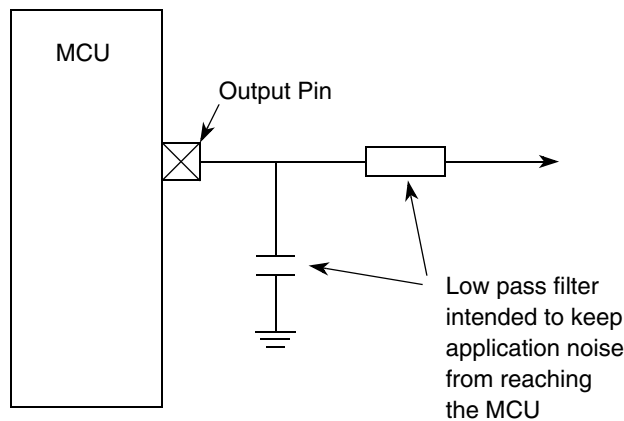

Figure 11. Connecting Capacitors Directly to Output Pins
1. Avoid connecting capacitors directly to output pins (Figure 11) in an attempt to prevent system noise reaching the MCU pin. The capacitor will appear as low impedance to transitions of the output, resulting in fast rising pulses of current and EMC noise. A simple solution is to add some series resistance to the MCU side of the filter. This will increase the rise time of the signal on the capacitor (due to the time constant of the increased effective output impedance and the filter capacitor) and reduce the EMC generated.